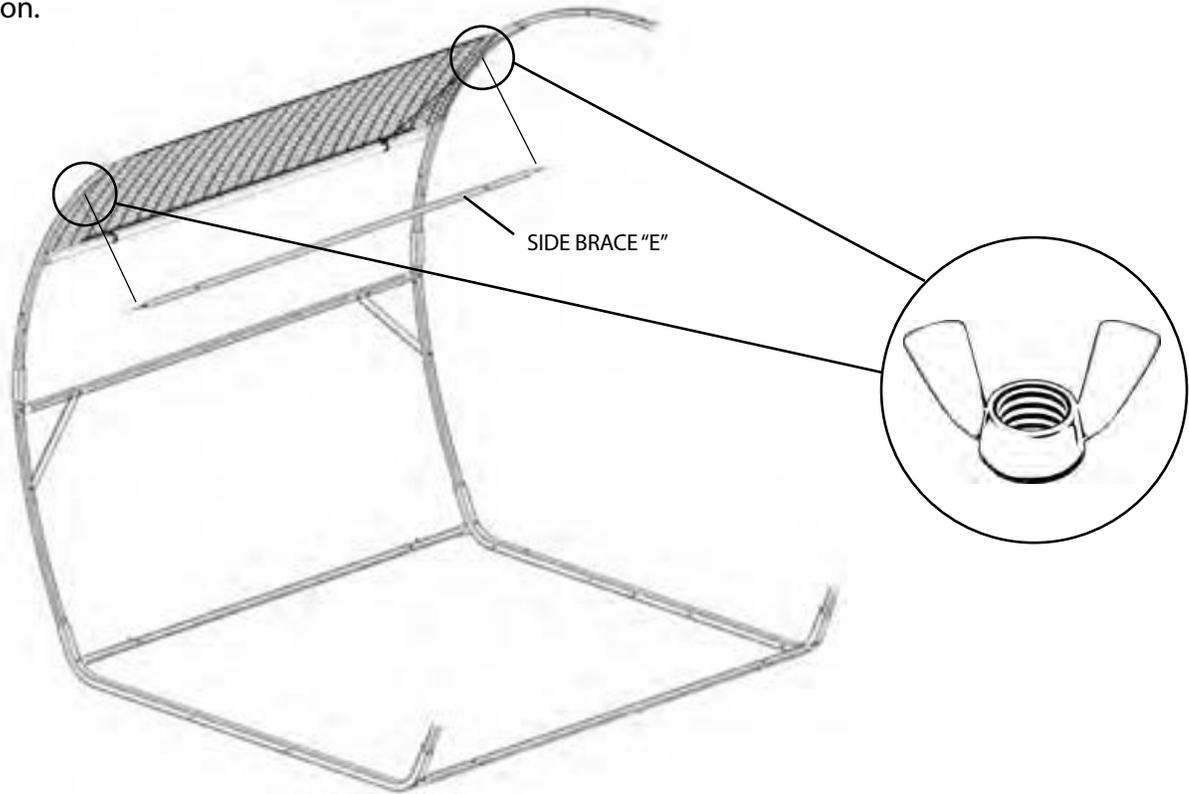

Figure 34.1
INSTALLING THE CONVERSION BLANKET & WATERFOWL WINDOW BRACE: Locate the (1) CONVERSION BLANKET "X" and remaining (1) SIDE BRACE "E". Begin by removing the (2) Wing Nuts located at the hardware connection on the CROSS MEMBER BRACES located on the WATERFOWL DROP DOWN DOOR "A", that were initially installed on Step 5. With the remaining SIDE BRACE "E", align and fasten the hole ends on the inside of the bale blind frame with the (2) Wing Nuts and secure into place, as illustrated in Figure 34.1. This will keep the WATERFOWL DROP DOWN DOOR "A" permanently locked in its closed position.